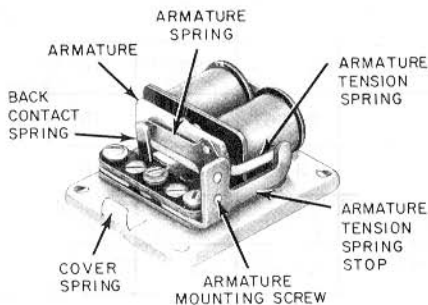
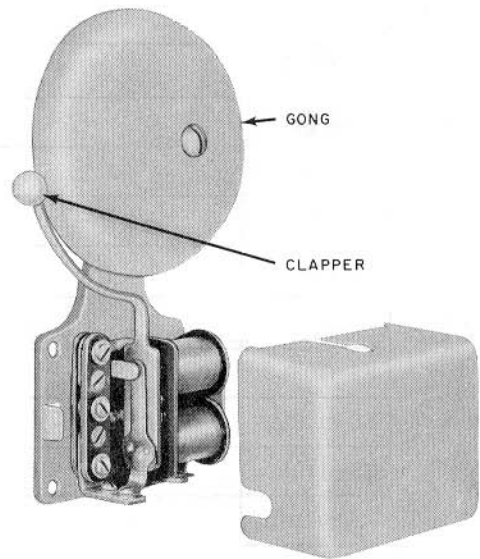

Fig. 1—7F Buzzer
Fig. 2—7-Type Bell
2.04 The 7F buzzer (A&M Only) (Fig. 1) and the 7-type bell (Fig. 2) have the same design features except the bell is equipped with a clapper and 3-inch gong.
2.07 The gong of the 7-type bell (Fig. 2) has its mounting hole drilled off-center. The eccentricity of the mounted gong provides for adjustment of the bell's volume by rotating the gong to increase or decrease the travel distance between the clapper and the gong.
- (e) The 7F buzzer (Fig. 1) may be mounted in any position. A preferable position for